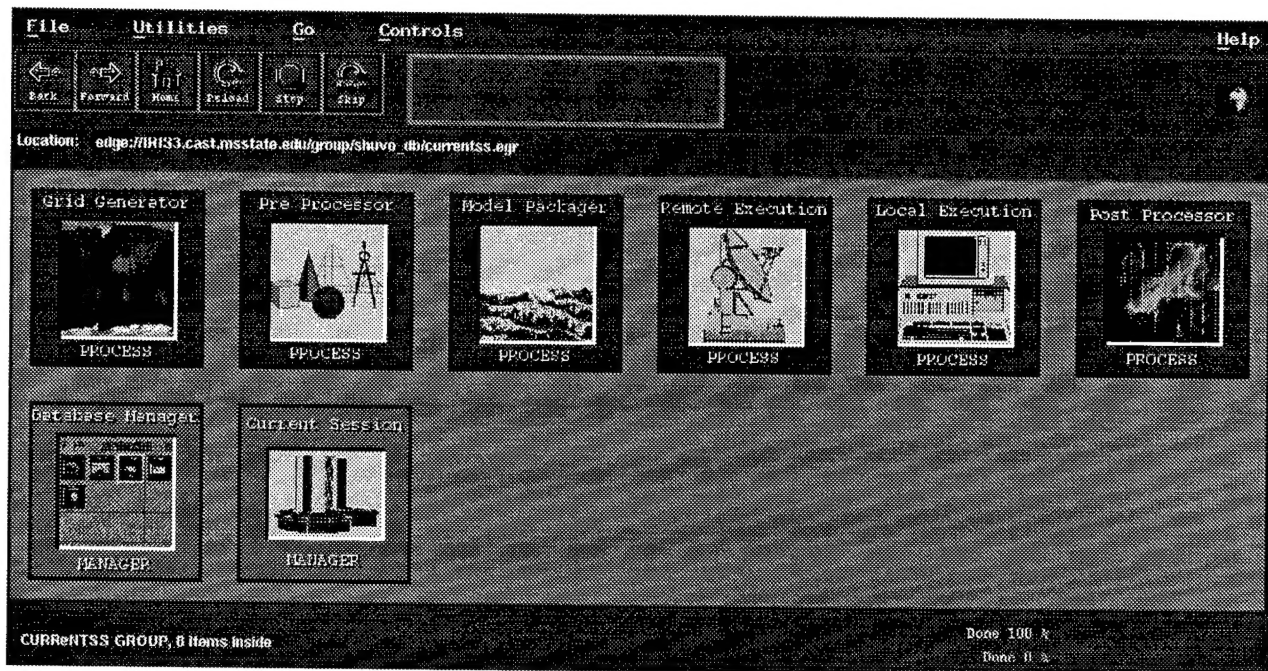

Figure 3 – RME main window
Since RME currently incorporates only the CURReNTSS model, this is the only icon displayed here. Double clicking on it will bring up a page containing icons representing RME processes and databases (Figure 3). This is the main 'RME procedures page' and is the central console for all RME operations.
Six procedure modules can be seen in Figure 3, as green icons in the upper row. The two pink icons represent the database managers, which organize data into easily operable visual packets. The processes are described in detail below.
1. Open the 'Database Manager' by double clicking on the icon representing it in the 'RME procedures page' (see Figure 3).
5. Drag the selected database icon to the 'Pre-Processor' icon in the 'RME procedures page' to activate the 'Pre-Processor' module. To facilitate this process place the two EDGE windows (Figure 3 and 10) on top of each other.